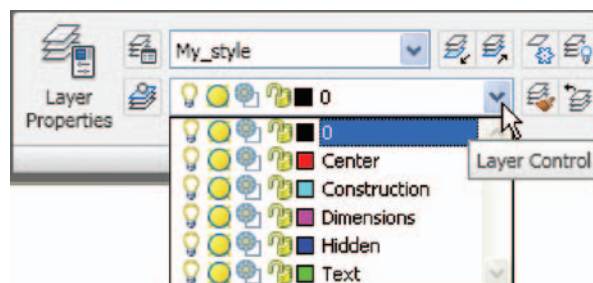

Fig. 7.5 Making the layer **Center** current from the **Home/Layers** panel
4. In the **Home/Layers** panel, in the **Layer Control** list *click* on **Center** to make it the current layer (Fig. 7.5). All lines will now be drawn as centre lines.